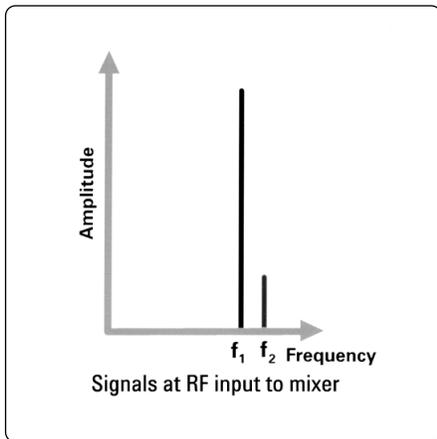
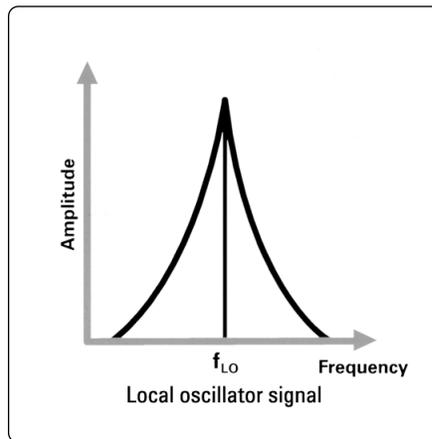

Figure 8. Two signals to be down-converted with a local oscillator
Figure 9. Local oscillator with phase noise
Spectral purity is needed on signal generators used as local oscillators. Let's look at two signals, f_1 and f_2 , in figure 8. These signals will be mixed with a local oscillator signal (figure 9) down to an intermediate frequency (IF) where highly selective IF filters can separate one of the signals for amplification, detection, and baseband processing. If the desired signal is the larger signal, there should be no difficulty recovering it.